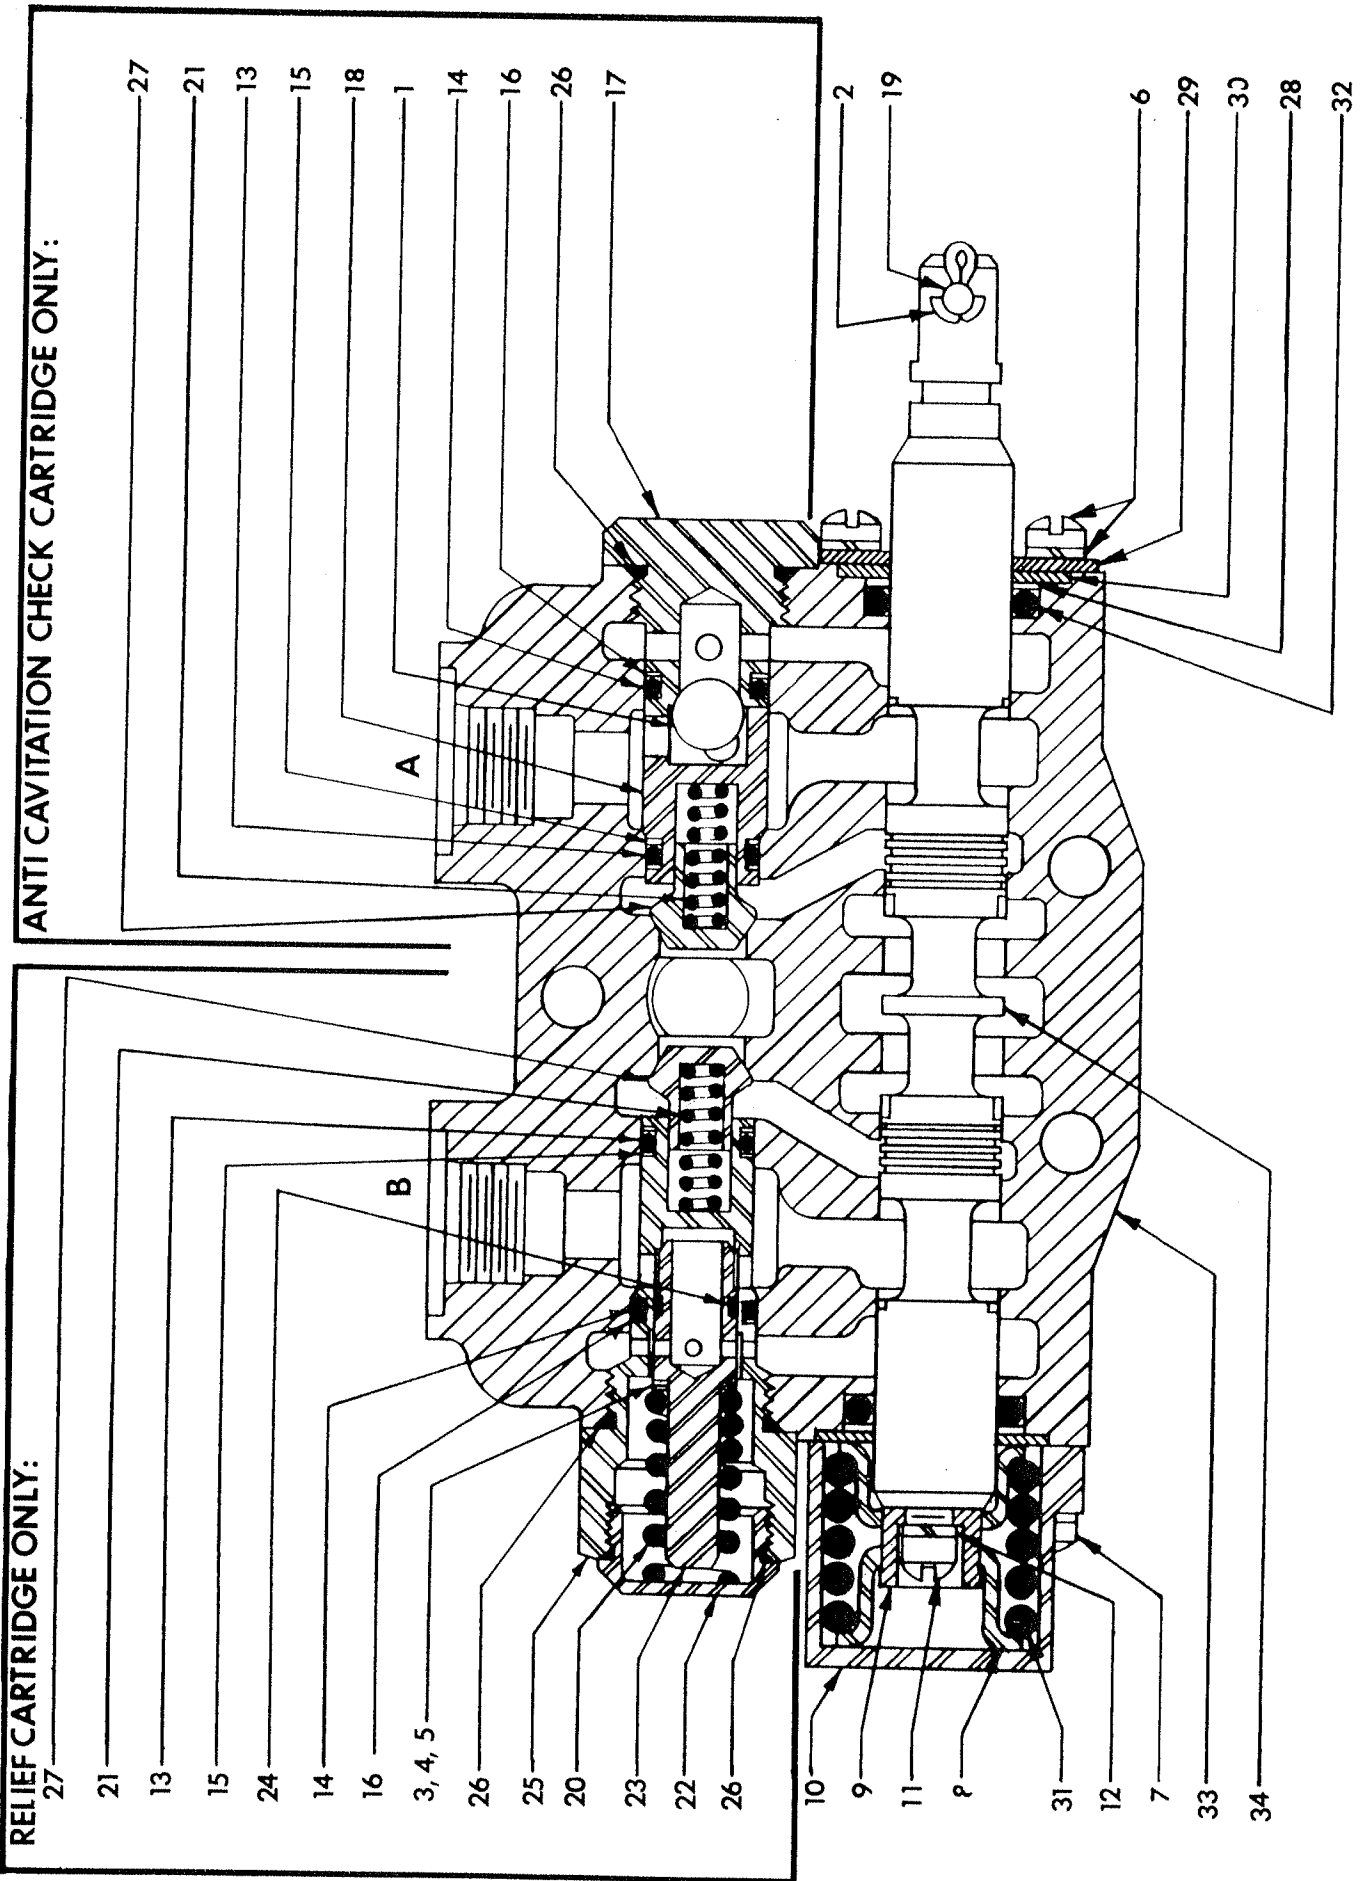

FIG 8
20. Bent spool.....return for factory repair, or replace with new spool section. See item 31 at the end and Fig 8, 9, and 10.
23. Spool not moved to full stroke.....check travel, should be 5/16 inch either way or a total of 5/8 inch. See item 31 at the end.
25. Overload relief valve in the control.....clean relief carefully but do not disturb its pressure setting as it can not be field calibrated, or replace cartridge. See item 31 at the end and Fig 8 and 9.
28. Check poppet in the control valve.....clean check poppet(s) carefully, being sure that it moves freely with good spring action and seats properly or replace. See item 31 at the end and Fig 8, 9, and 10.
29. Damaged or worn spool seals.....replace spool end seals, see item 31 at the end and Fig 8, 9, and 10.
30. Check ball in anti-cavitation check.....clean anti-cavitation valve carefully, being sure that checks move freely and seat properly, or replace cartridge. See item 31 next, and Fig 8 and 9.
PARTS LIST - FIG 8